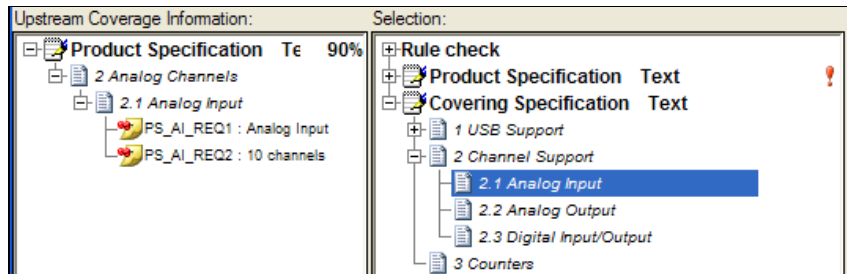

Figure 4-5. 2.1 Analog Input Section Selected in Coverage Analysis View
8. Double-click the **2.1 Analog Input** section in the Downstream Coverage Information column. Requirements Gateway navigates to the 2.1 Analog Input section in the Selection column, as shown in Figure 4-5. The Upstream Coverage Information column displays that 90% of the requirements in the Product Specification document are covered by the Covering Specification document, and that the PS_AI_REQ1 and, PS_AI_REQ2 requirements are specifically covered by references from the 2.1 Analog Input section in the Selection column.